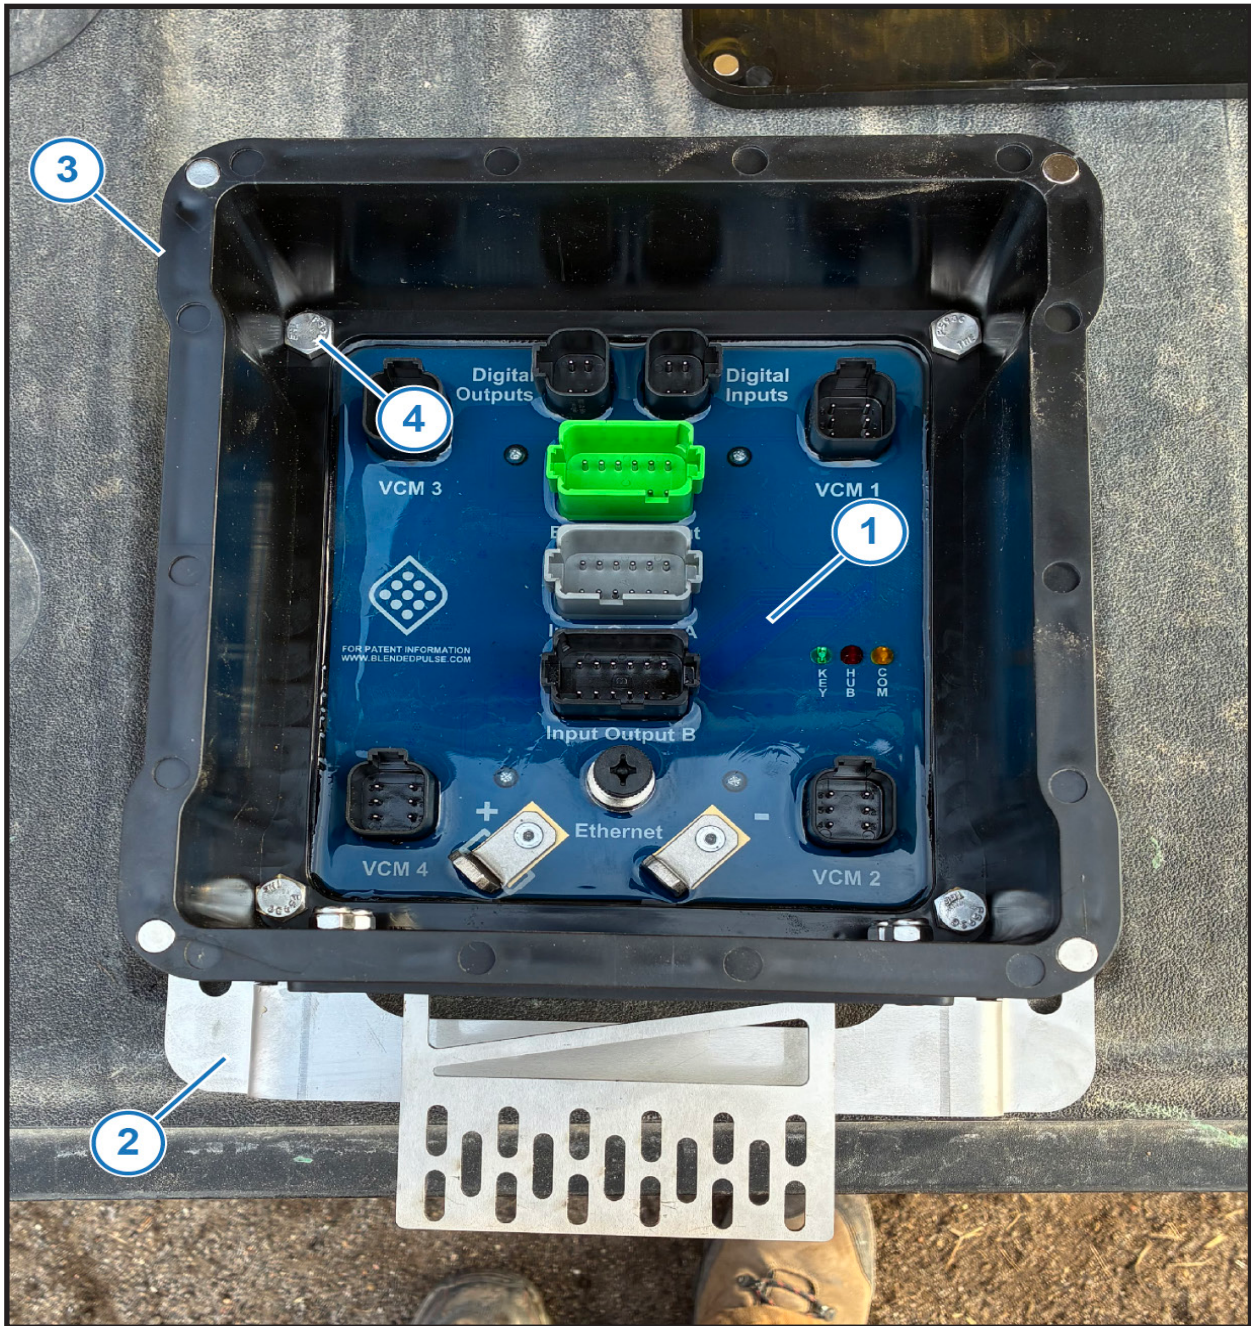

Figure 2: PPIII Lite Hub Assembly
3. Assemble the PinPoint III Lite Hub, enclosure, and mounting bracket as shown by placing the PinPoint III Lite Hub (**Figure 2, Item 1**) on top of the PinPoint Mounting Bracket (**Figure 2, Item 2**), and the PinPoint III Lite Cover (**Figure 2, Item 3**) on top of the PinPoint III Lite Hub. Secure the items together with supplied hardware (**Figure 2, Item 4**).